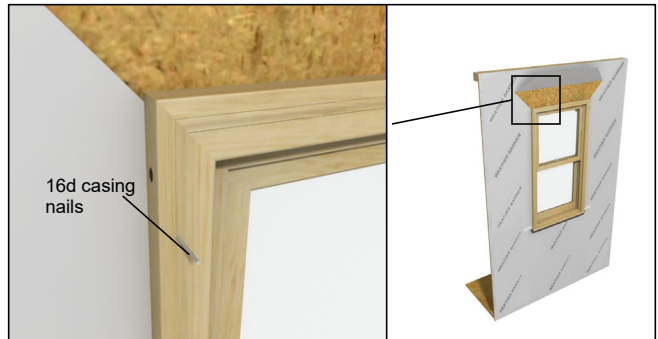

Figure 3
3. Fasten the BMC with 16d casing nails spaced 4" (102) maximum from corners and 8" (203) maximum around perimeter. See figure 3.